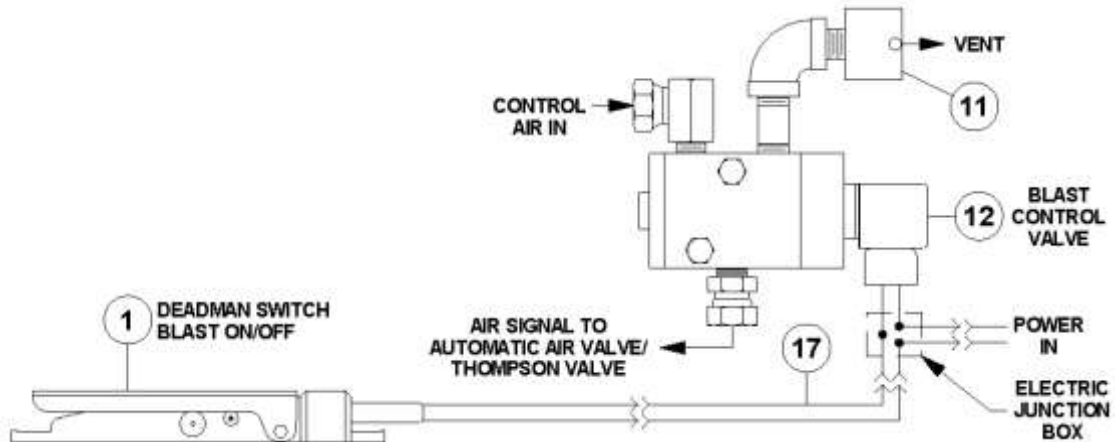

Figure 5.4 – Electric Blast Control System
5.10.2. Electric Deadman System: When the electric deadman lever is pressed down it closes the electric circuit and supplies electric current to the control valve (#12). The control valve opens and sends air signals to the auto air valve (#10) and the Thompson® Valve (#13). When the deadman lever is released, the electric circuit is cut off closing the control valve. The signal air vents from the breather (#11). See Figure 5.4 and the drawing in Section 9.2.